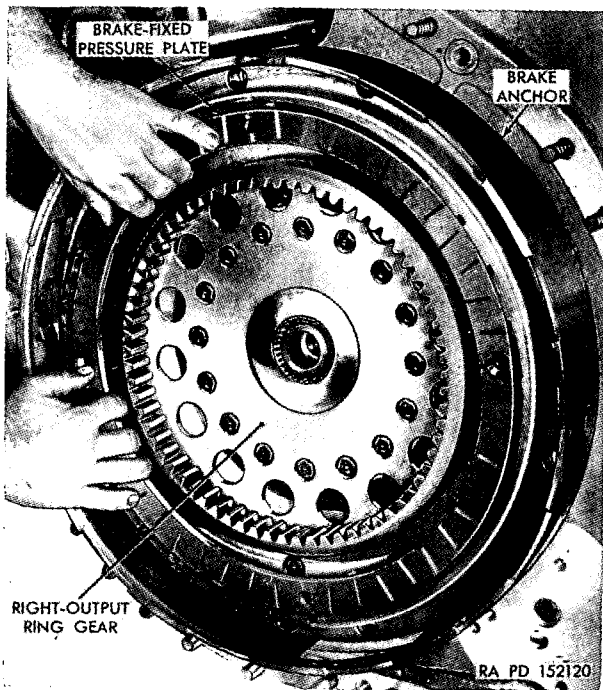
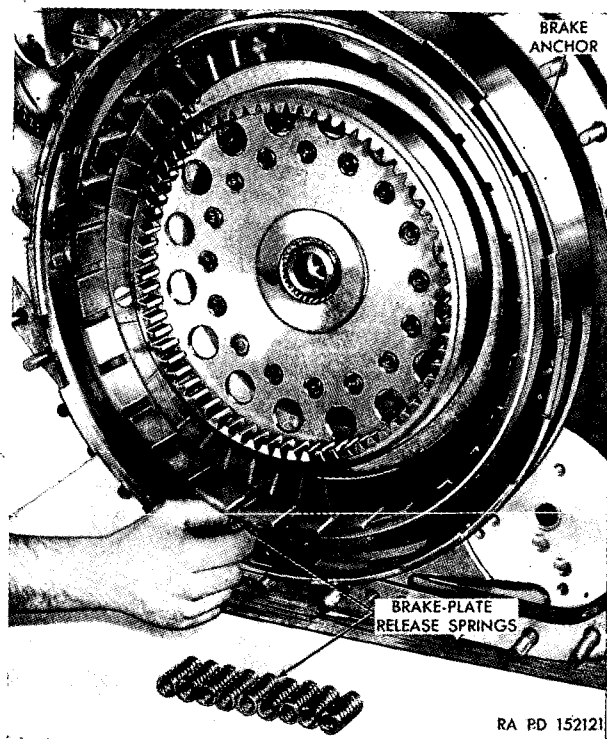

Figure 381. Installing brake-fixed-pressure plate.
Figure 382. Installing brake-plate release springs.
- (6) Install the brake-fixed-pressure plate on the two dowels on the brake anchor (fig. 381). Secure the pressure plate to the anchor with two screws (fig. 92). Stake the screw heads at each end of the slot. Install 10 brake-plate release springs in the outer circle of the brake anchor (fig. 382).
- (7) Install the brake disk pack, starting